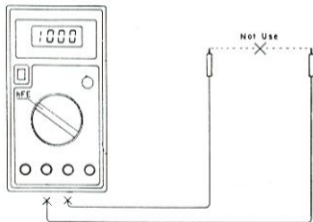

Fig. 5-8 Transistor hFE Test.
2. Determine whether the transistor is NPN or PNP and locate the Emitter, Base and Collector leads. Insert the leads into the proper holes in the socket on the front panel See Fig. 5-8.